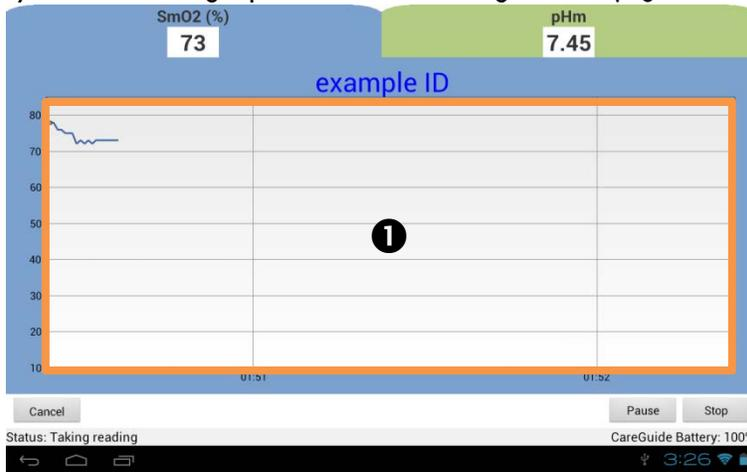

Figure 22. Monitoring Screen- Graph Area for Accessing Options
- 1 Touch anywhere on the graph on the Monitoring Screen (Figure 22 ①).